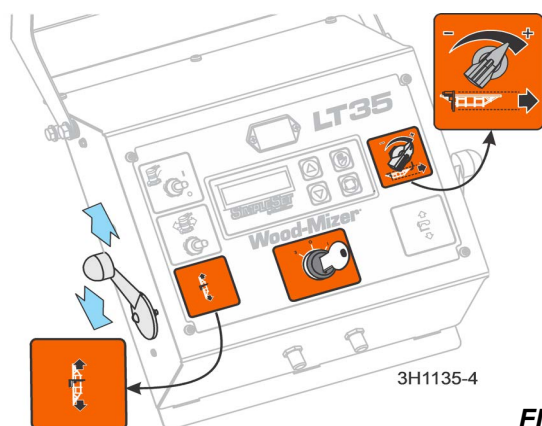

FIG. 3-3
7. Use the carriage forward/reverse switch (left side of control box) to move the cutting head toward the front (hitch end) of the mill. **See Fig. 3-3.**
8. Use the feed control switch (left side of control box) to move the cutting head toward the front end of the mill. **See Fig. 3-3.**